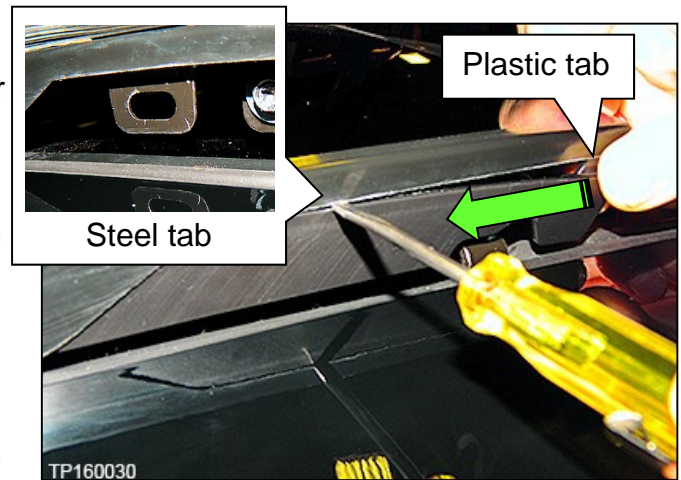

Figure 15
- b. Insert a pocket screw driver between the moonroof bolt finisher and the moonroof in the location shown in Figure 15.